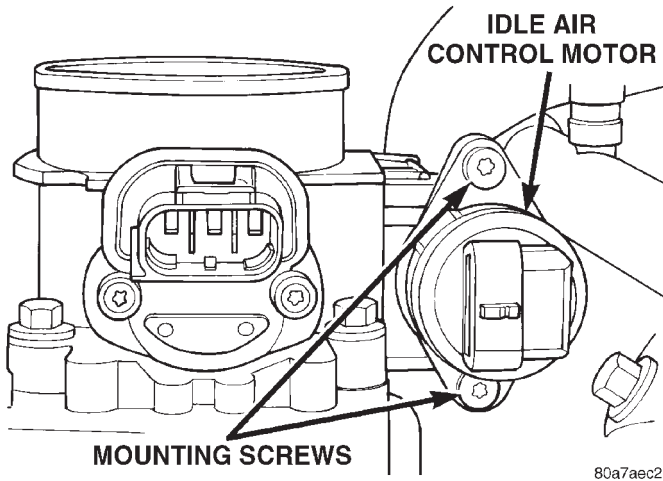

Fig. 48 Mounting Bolts (Screws)—IAC Motor
- (1) Remove air cleaner tube at throttle body.
- (2) Disconnect electrical connector from IAC motor.
- (3) Remove two mounting bolts (screws) (Fig. 48).
- (4) Remove IAC motor from throttle body.